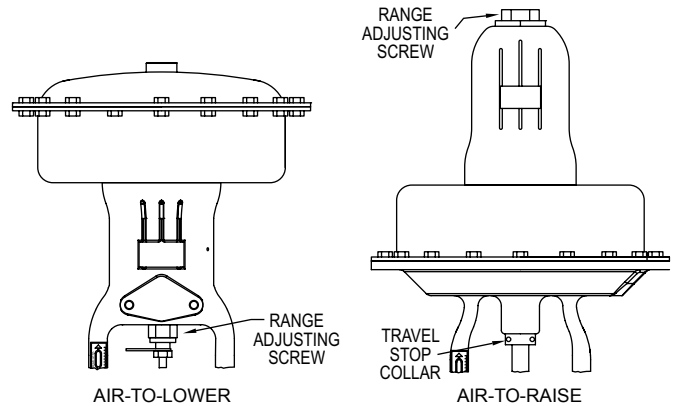

Figure 6: Adjusting actuator range
3. If input pressure is not the same as lower range value on data plate, spring adjusting screw must be adjusted. If pressure is high, turn adjusting screw, Figure 6, counterclockwise as viewed from the valve top. If pressure is low, turn adjusting screw clockwise as viewed from the valve top.
1. Loosen the four set screws on travel stop collar, Figure 6, collar should move freely on push rod.